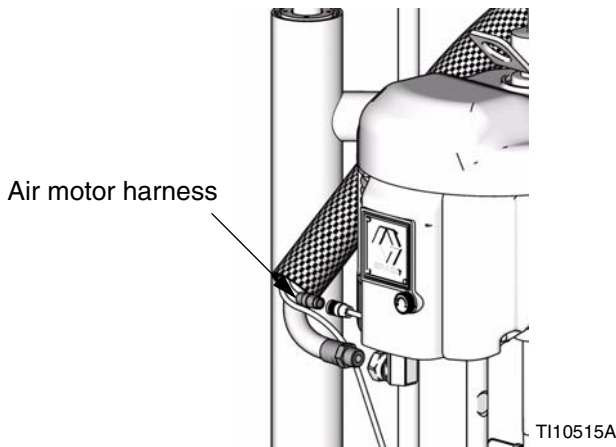
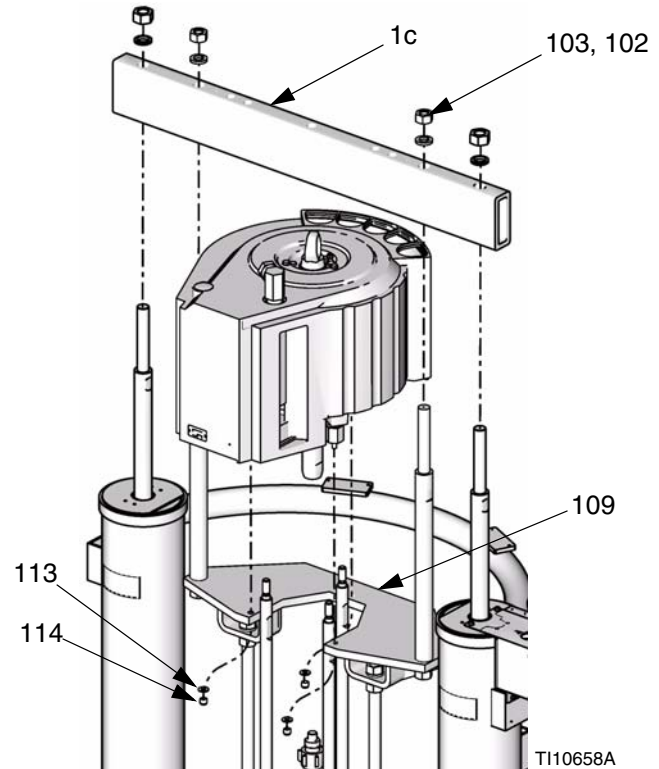
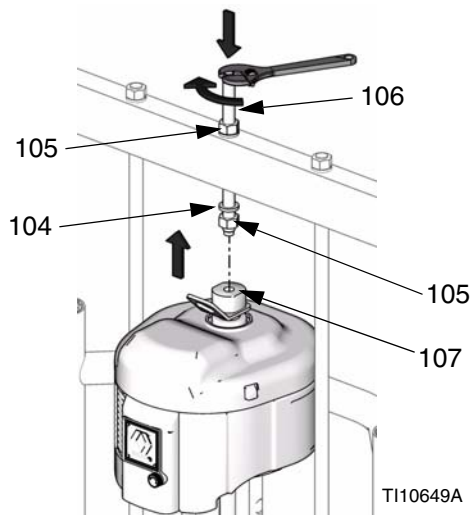

FIG. 23
FIG. 28
FIG. 29
- b. Install threaded rod (106) through center hole in the crossbar. Install lock washers (104) and nuts (105) onto threaded rod (106), both above and below crossbar. Use wrench to hold lift ring adapter (107) and tighten threaded rod (106) into lift ring adapter (107) using another wrench. See FIG. 29.
- c. Tighten nut (105) below crossbar to 25 ft-lb (34 N•m) maximum.
- d. Tighten nut (105) above crossbar to lock motor in place.
- e. Connect air hose to motor. If using a remote DataTrak, connect electrical connections to the air motor. See FIG. 23 on page 22.
- b. Connect air hose to motor. If using a remote DataTrak, connect electrical connections to the air motor. See FIG. 23 on page 22.
1. Using a capable hoist, lower air motor on the mounting plate (109). See FIG. 28.
2. Secure motor to mounting plate (109) with nuts (114) and washers (113).
3. Install cross bar (1c), nuts (103), and washers (102).
5. Connect air hose to motor. If using a remote DataTrak, connect electrical connections to the air motor. See FIG. 23 on page 22.